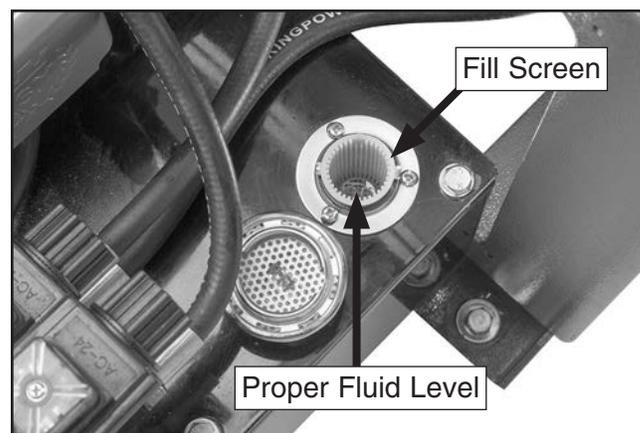

Figure 69. Checking fluid level.
7. Check fluid level. Fluid should just cover the bottom of the fill screen (see **Figure 69**).
6. Clean tank cap and fill screen (see **Figure 69** on **Page 46**) with mineral spirits and allow to air dry.